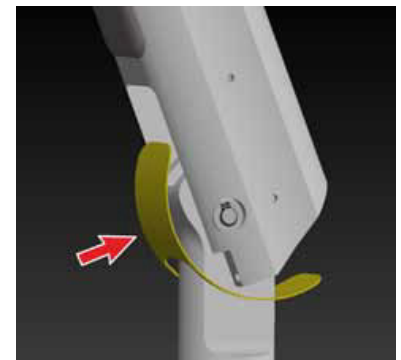

Figure 114
- Remove the defective end caps. Do not remove the rubber part shown in Figure 114 .